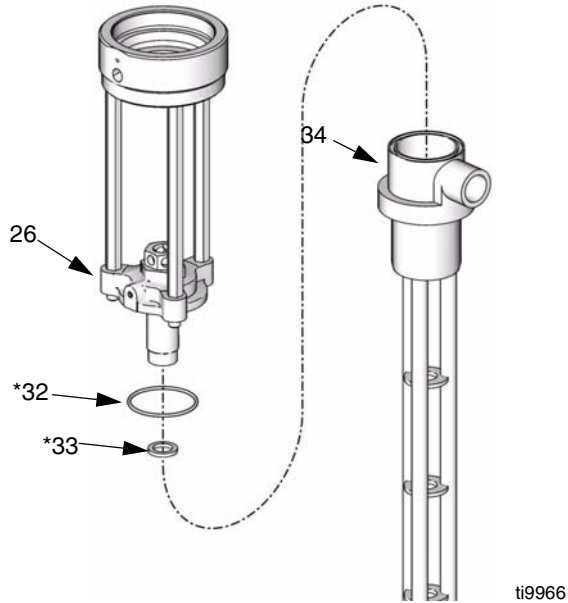

FIG. 23
- Unscrew mounting flange (26) from pump body (34). Remove o-ring (32\*) and PTFE gasket (33\*) from pump body (34). Inspect all parts for damage. See FIG. 23.